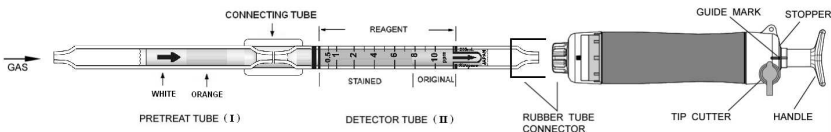

Fig.1
- ① Break both ends of the detector tube ( II ) and pretreat tube ( I ), and connect each end of the detector tube ( II ) and pretreat tube ( I ) with connecting tube as shown in Fig. 1.
- ② Insert the detector tube ( II ) into the aspirating pump securely as shown in Fig.1. (Arrow mark shall point to the pump.)
- ③ Align the guide marks on the shaft and stopper of the aspirating pump.
- ④ Pull the pump handle at a full stroke until it locks and wait for 1.5 minutes or until the completion of sampling is confirmed with the flow indicator of the pump. (See descriptions about the flow indicator in the instruction manual of the pump.)
- ⑤ Push back the handle without removing the detector tube from the rubber tube connector so that air in the pump will be discharged perfectly. Then repeat the step ③~④ once more.
- ⑥ On completion of sampling, read the scale at the maximum point of the stained layer.
- ⑦ When the concentration is over the scale range, 1 pump stroke can be used to determine concentrations of 1 to 20 ppm.